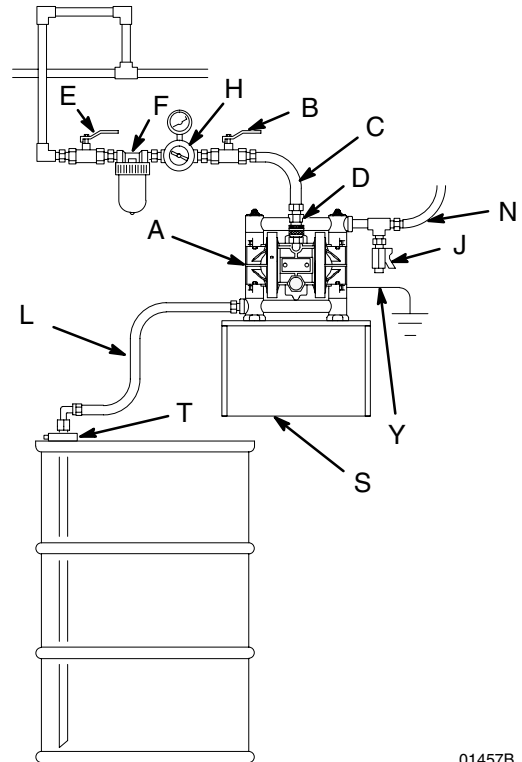

Fig. 6
- Install a fluid regulator (M) at the pump fluid outlet to control fluid pressure, if desired (see Fig. 6). See **Air Line**, step 1a, for another method of controlling pressure.
- Install a fluid drain valve (J) near the fluid outlet. See the **WARNING** above.